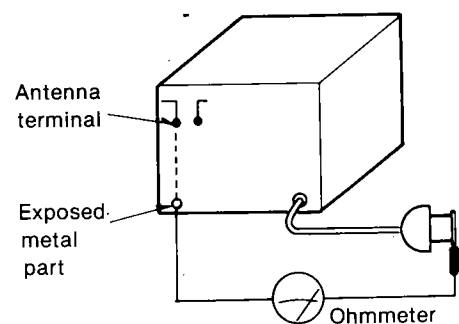

Fig. 1
3. Measure the resistance value with ohmmeter between the jumpered AC plug and each exposed metal cabinet part, such as screwheads, antenna, control shafts, handle brackets, etc. Equipment with antenna terminals should read between $3M\Omega$ and $5.2M\Omega$ to all exposed parts* (Fig. 1) Equipment without antenna terminals should read approximately infinity to all exposed parts. (Fig. 2)